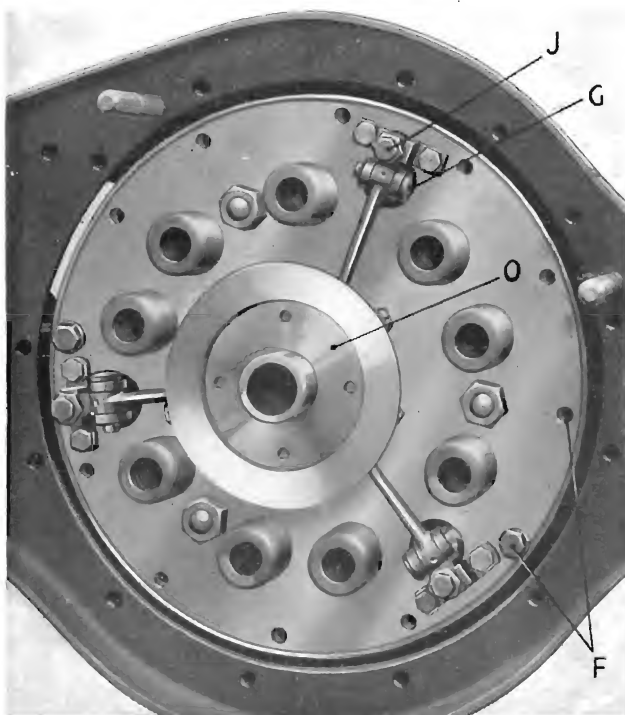
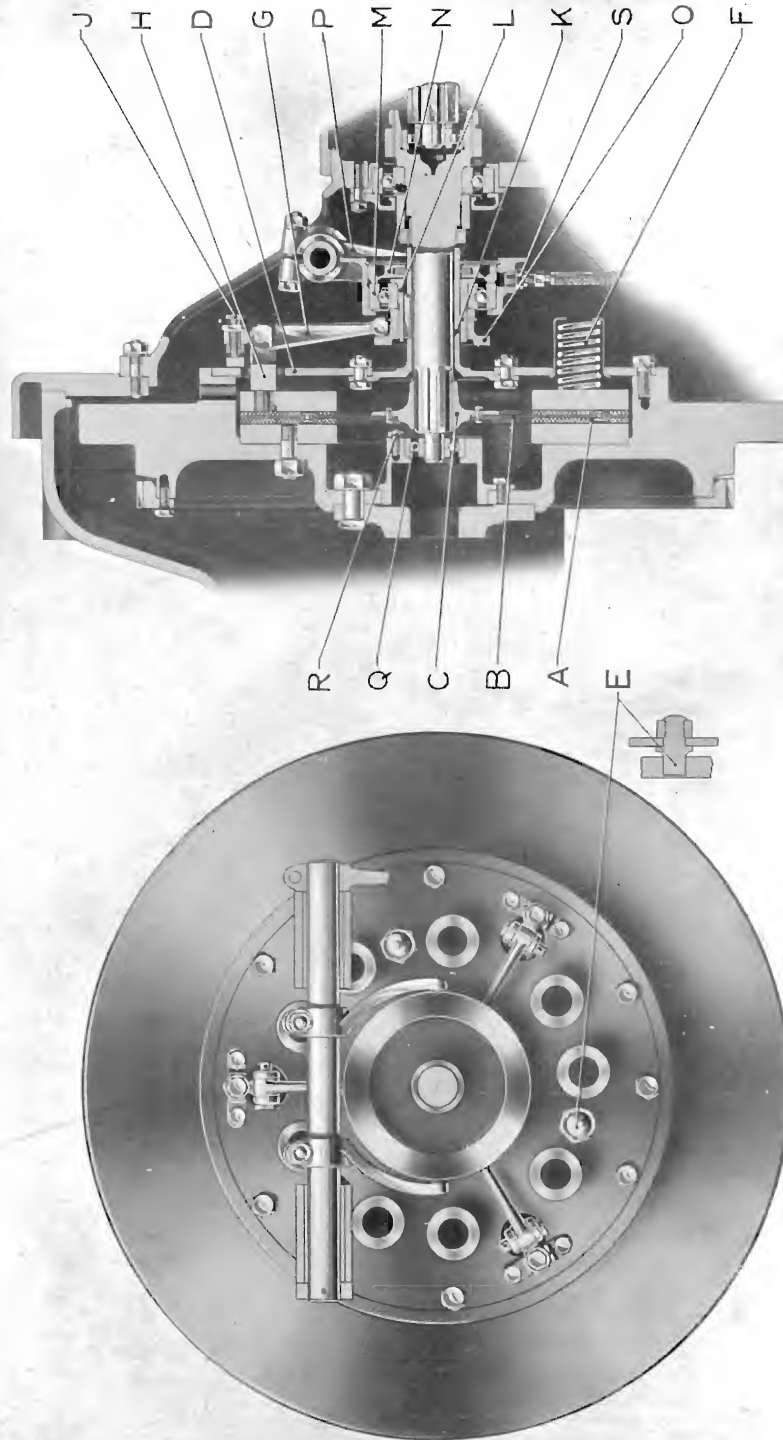

Fig. 2.
Fig. 3.
When the clutch has been relined the withdrawal fingers require careful adjustment. Check that the pedal is back against the stop-screw (C), Fig. 1, and that the lever (D) is vertical; engage the toggle levers (E) in the slots in the withdrawal housing and tighten the clamp bolts. Adjust each of the withdrawal fingers by means of the screws (J), Fig. 2, so that there is .010 in. clearance between the tips of the fingers and the withdrawal collar (O). **It is most important that all these clearances should be equal to ensure that the clutch withdraws evenly.** Having obtained an equal adjustment, tighten the lock nuts and check that the clutch pedal has the correct free travel.
Disconnect the withdrawal race oil pipe at the union (S), Fig. 3, slack off the toggle lever clamp bolts and remove the gearbox as outlined under "Removal of Gearbox." Take out the setscrews (F), Fig. 2, securing
The flywheel insert can be removed by unscrewing the nuts which secure it to the flywheel. To remove the spigot bearing take out the setscrews (R), Fig. 3, and remove the retaining plate.
Release the circlips and screw out the retaining plug (N), Fig. 3, and withdrawal collar (O); the thrust race housing can then be withdrawn and the bearing pressed out. Check that the key and the keyway in the sleeve (L) are not worn as this will cause chattering. If a new one is fitted check that it will slide freely along the inner sleeve. Renew a badly worn thrust race, locking it in the housing with the locking plug and observing that one of the four slots in the plug registers with the oil hole in the housing. Lock the plug and collar with the circlips.
When re-assembling the clutch, smear the springs and driving pegs (E), Fig. 3, with graphite grease. Clamp the pressure plate
Pack the spigot bearing (Q), Fig. 3, with high melting point grease (See Section on "Lubricants.") If the bearing has been removed, replace the retaining plate and setscrews and wire the setscrews together.
Couple up the oil pipe at (S), Fig. 3, and lubricate the thrust race.